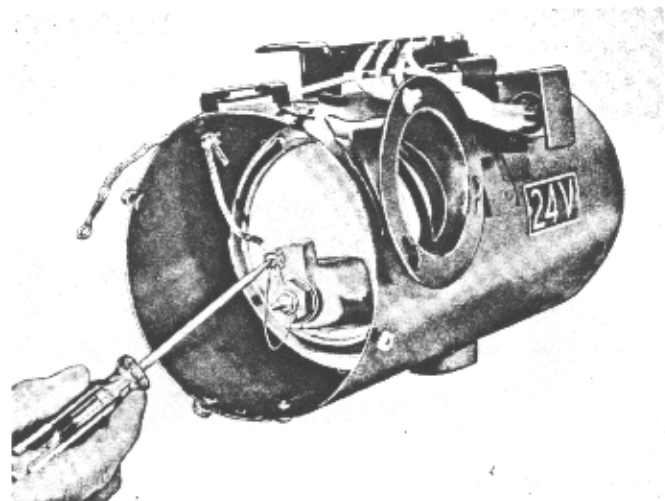

Figure 42
2. Disconnect igniter ground wire from screw on igniter pocket. This will also release the resistor on 12 or 24-volt heaters (Figure 42).